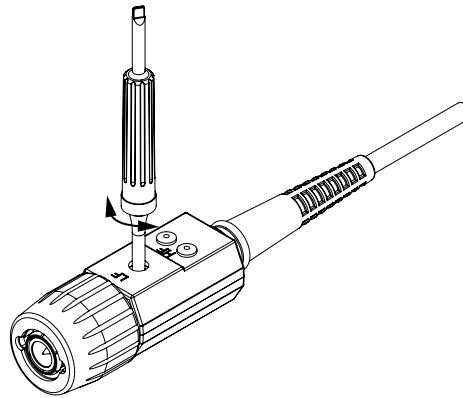
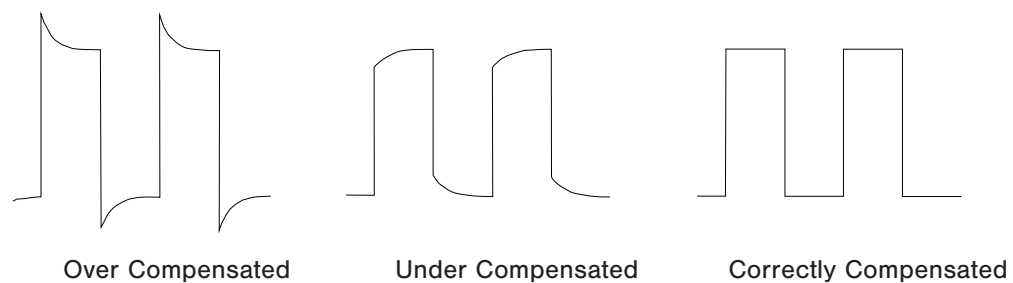

Figure 7 Low Frequency Adjustment Point
Figure 8 Frequency Compensation Waveforms
5. Using supplied trimmer tool, adjust the Low Frequency Adjustment Point (Figure 7) for the flattest square-wave top. Figure 8 shows the correctly compensated waveform.